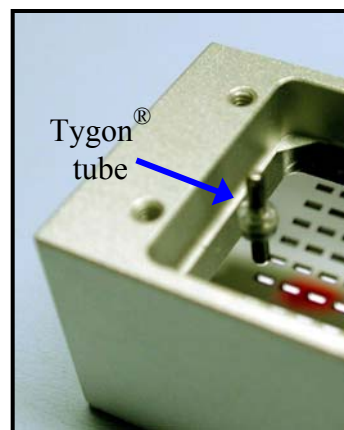

Fig. 6 Securing the top collimator to the metal holder with Tygon® tubing.
- Tygon[®] tubing which secures the top collimation plate from moving during printing (Fig. 6).
- d) Place the enclosed Tygon[®] tubing (1/16" OD) onto the alignment pins and gently press them down to secure the top collimator to the metal holder (Fig. 6).